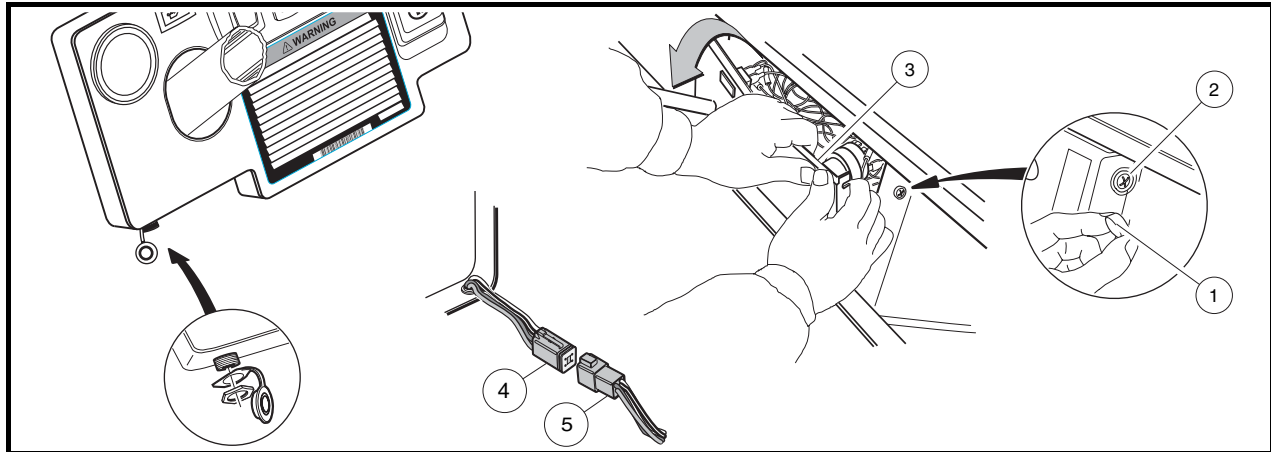

Figure 12-11 Testing IQDM Jack - Turf 1/Carryall 1
- 3.1. Remove the center dash panel (**Figure 12-11, Page 12-20**).
- 3.1.1. Remove the plastic cap (1) covering the mounting screw (2) on each side of the center dash panel (3) (**Figure 12-11, Page 12-20**).